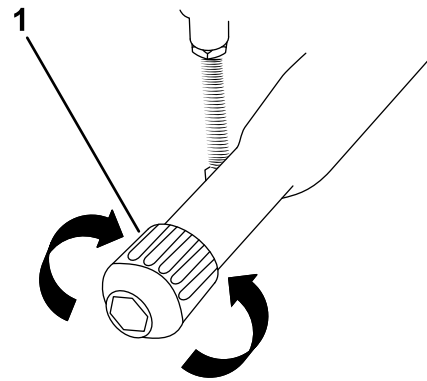

Figure 31
- **Loosening the parking brake:** (Figure 31).
4. Rotate the parking-brake knob **counterclockwise** (Figure 31).
- **Tightening the parking brake:** (Figure 31).
4. Rotate the parking-brake knob **clockwise** (Figure 31).